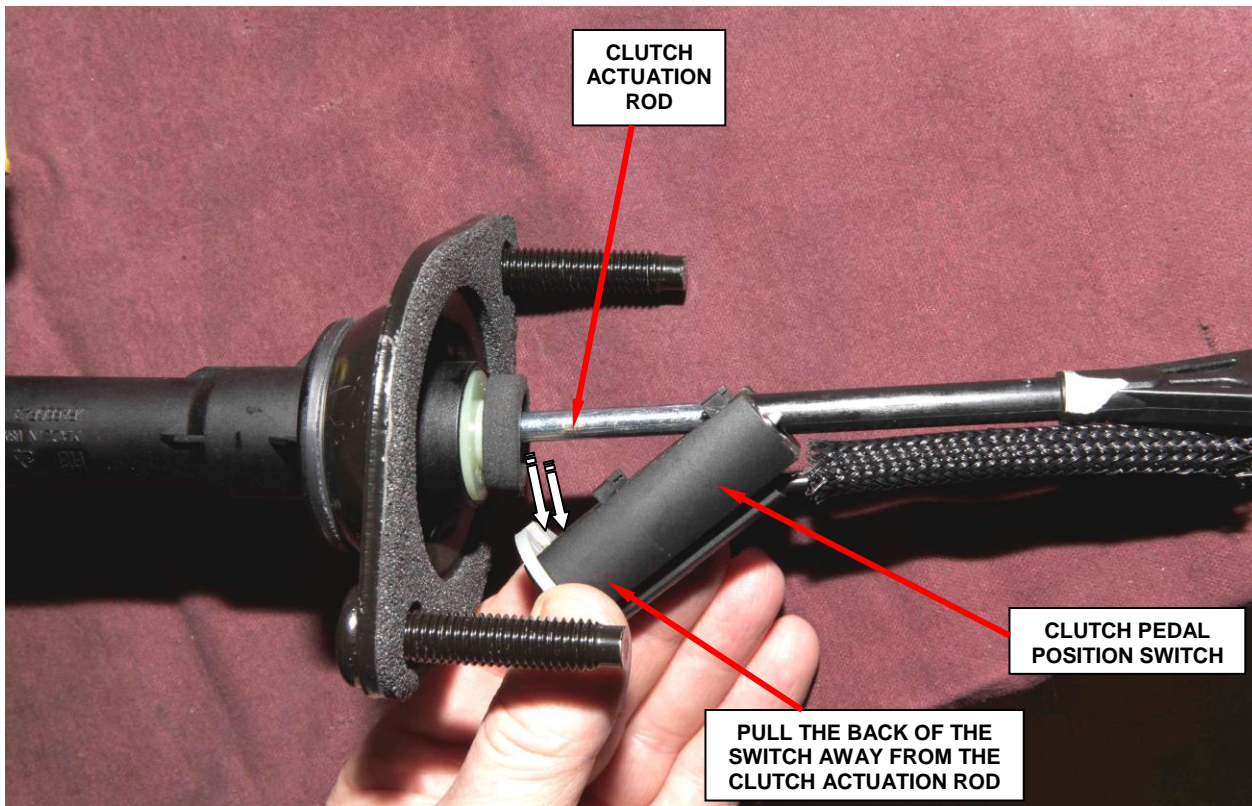

Figure 3 - Clutch Pedal Position Switch Removal
8. Pull the switch towards the clutch pedal slightly. Then pull the back of the clutch pedal position switch outward, away from the clutch actuation rod (Figure 3).